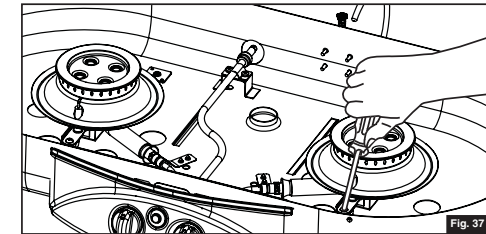

Fig. 37
4. Using a screwdriver, remove the self-tapping screws holding the burner clamps and remove the burners. (Fig. 37)